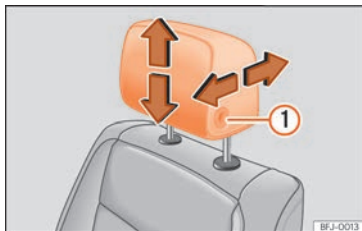
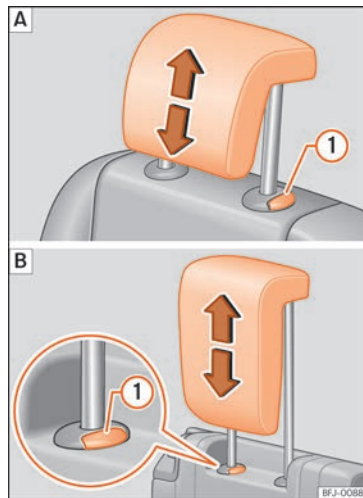

Fig. 107 Front seat: headrest adjustment.
Fig. 108 Adjusting the rear headrests: **A** Second row of seats, **B** third row of seats.
- Move the headrest up or down in the direction of the corresponding arrow. Regarding the rear headrest, to both raise and lower, press the button »» Fig. 107 ①; for the rear headrests it is only necessary to press the button »» Fig. 108 ① to lower them »» Δ in Introduction on page 131.
- Move the head restraint forward or back in the direction of the corresponding arrow while pressing the button »» Fig. 107 ①.